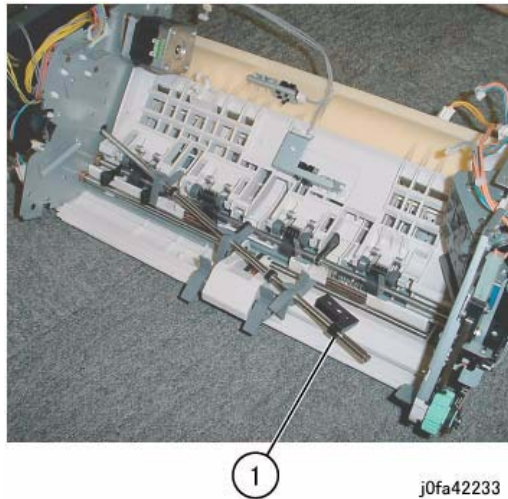

Figure 5 Removing the Main Paddle Shaft Assembly
8. Remove the Main Paddle Shaft Assembly (Figure 5):